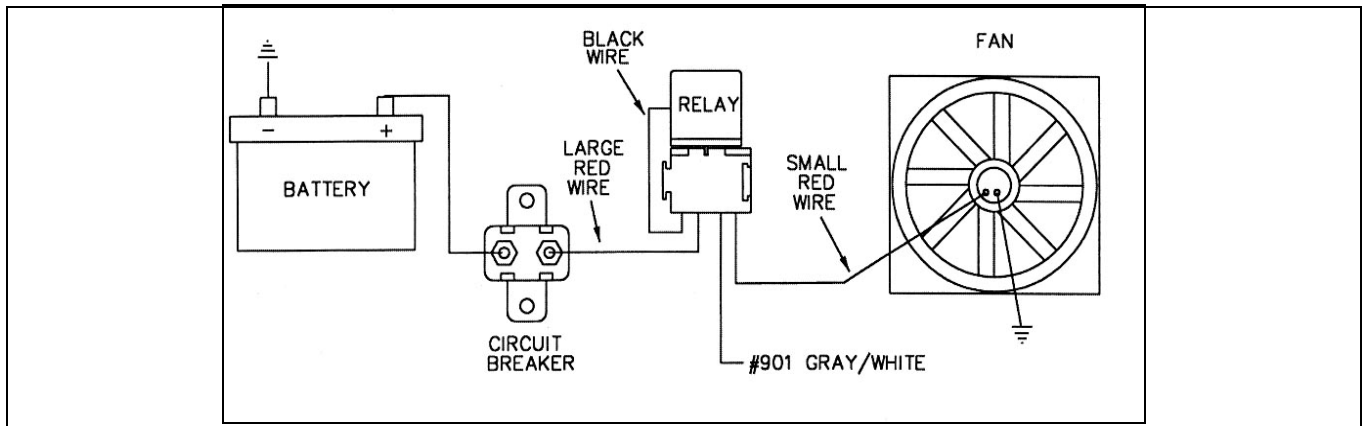

Figure 8-2 Typical Fan Relay Installation (Painless Part #30101)
- 8.1.4 Connect HEADLIGHT SECTION A wire #901 (gry/wht) to the Electric Fan Relay. This wire is an activation wire for the relay, **NOT A POWER FEED**. The other end of wire #901 is in the ACCESSORY SECTION SWITCHES and should be connected to the electric fan switch in the dash. Connect 906 (gry/wht) from ACCESSORY SECTION B+ to the other side of the fan switch. **Figure 8-2** shows a typical fan relay installation. **Note:** The wire going to the fan in Figure 10-4B will be coming from the fan relay output terminal. Wire #901 (gry/wht) from the ACCESSORY SECTION SWITCHES is an activation wire for the fan relay.